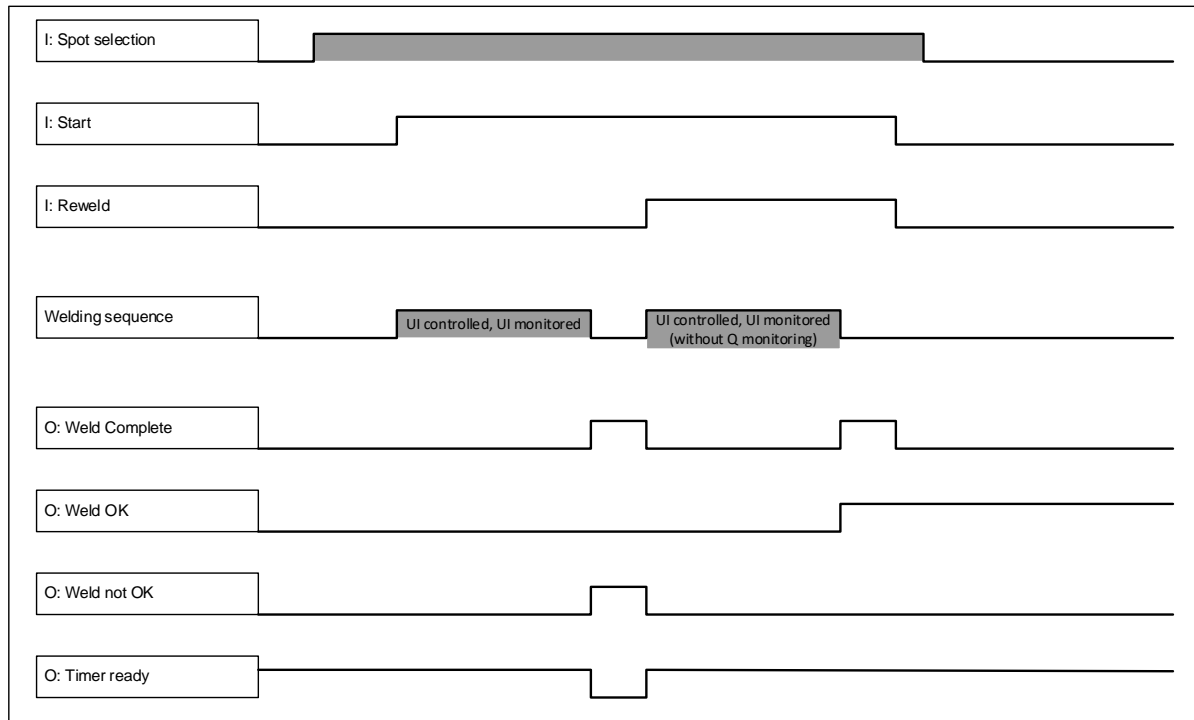

Fig. 5: Reweld OK
- Reweld ok (refer to Timer diagram fig. 5):